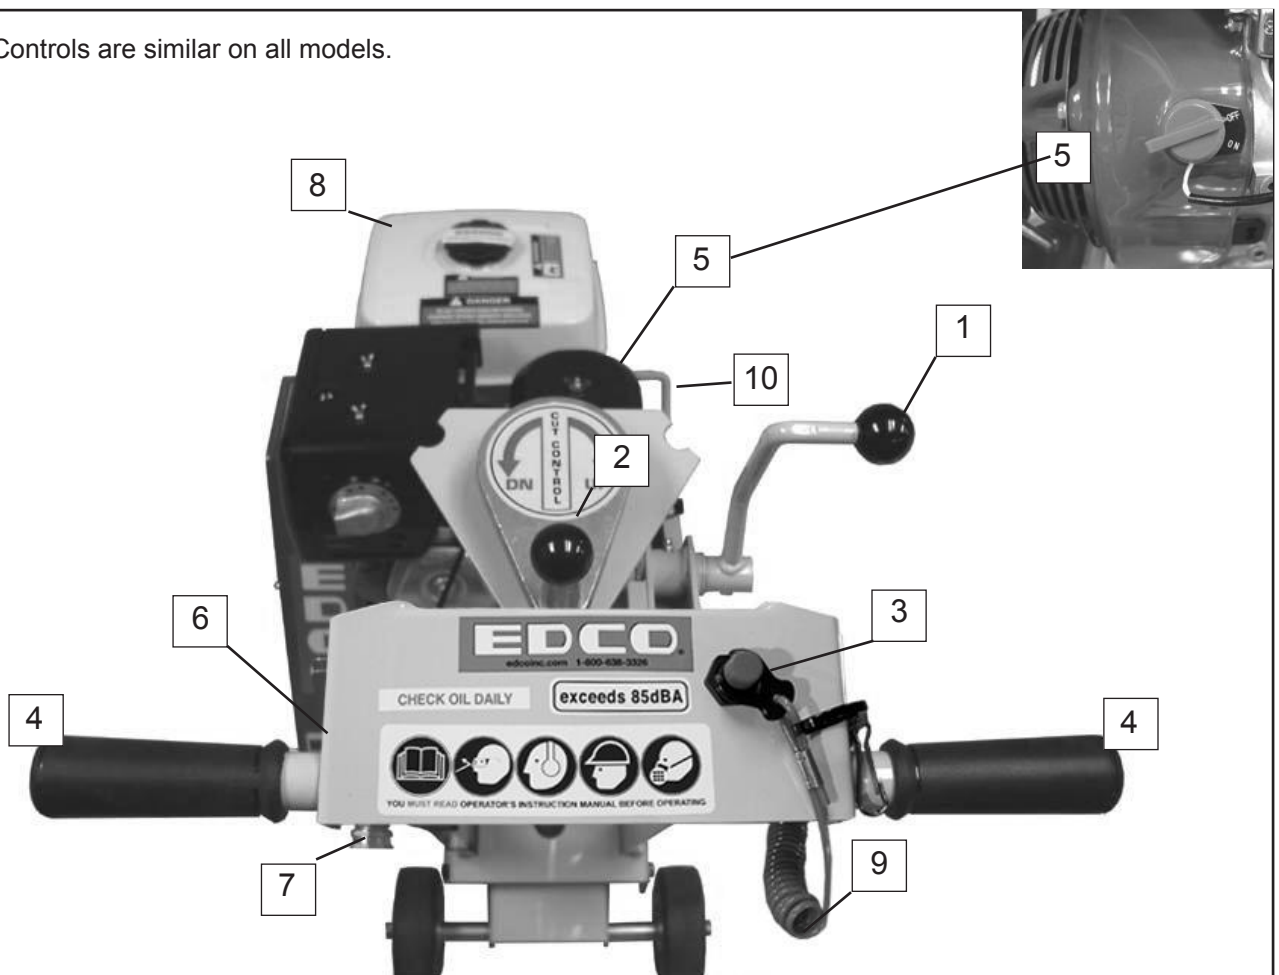

Figure 2
- Slowly lower the cutter head to the slab surface with the cutter head lever. (Figure 2, Item 1) & (Figure 4)